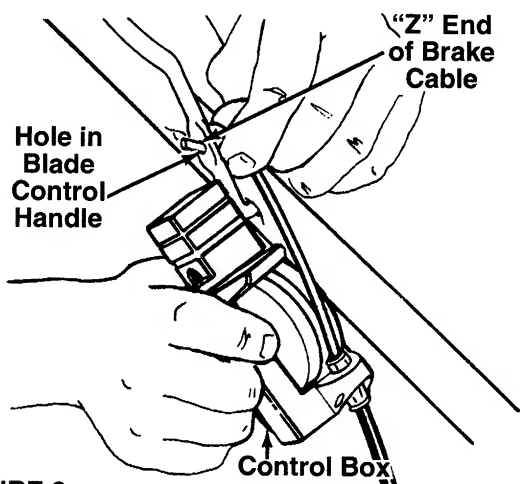

FIGURE 3.
2. Holding the control box near the left side of the upper handle (control box must be inside the handle), hook the "Z" end of the brake cable into the control handle from the outside to the inside. See figure 3.